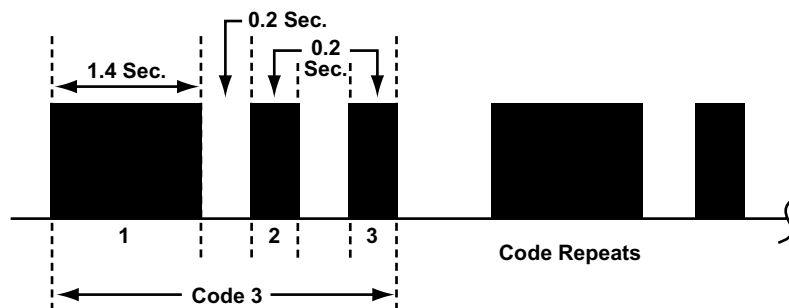

Figure 8-31 Honda ABS Code Type 05a
- Type 05a, see Figure 8-31 and Table 8-9 on page 80